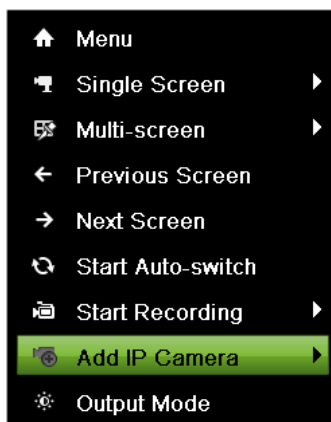

Figure 91 Right-Click Menu
1. Enter the live view menu and right click the mouse, as shown figure 91, in then choose the Add IP camera option.